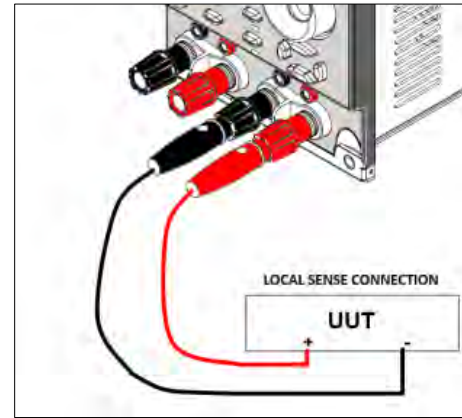

Figure 7-2: DC Load Connection with Internal Voltage Sense
- When connecting multiple output DC power supplies, at all times, the potential of the positive DC load module input (Red binding post) **MUST** be at a higher potential than that of the negative DC load module input (Black binding post). Refer to the example shown in Figure 7-2.
When the voltage sense mode is set to internal, the DC load module senses the DC at the input terminals of the DC load. Any voltage drop between the EUT and the load module across the load wires is not detected so the actual voltage at the EUT may be somewhat higher than is sensed by the load. For low current applications, the voltage drop may be negligible. Figure 7-2 shows the load connection with internal sense mode.